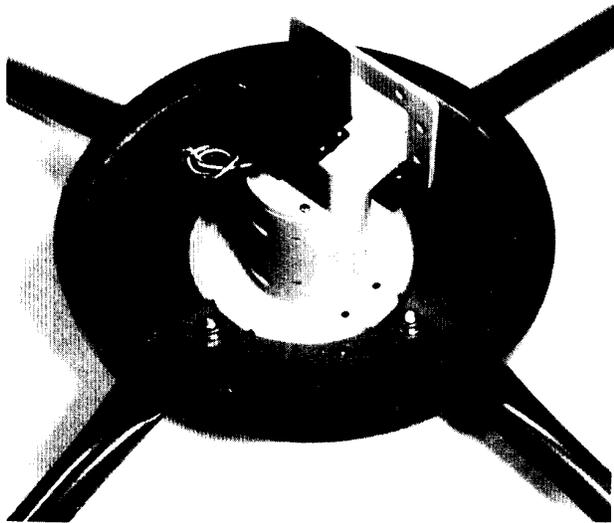

FIGURE 7
STEP 3: Assemble feedhorn and LNB according to instructions supplied. Use template or other means provided to determine orientation of feed assembly. Attach wiring to feed support leg with tape or wire ties or feed wiring through hole provided in feed support leg. See Figure 7.